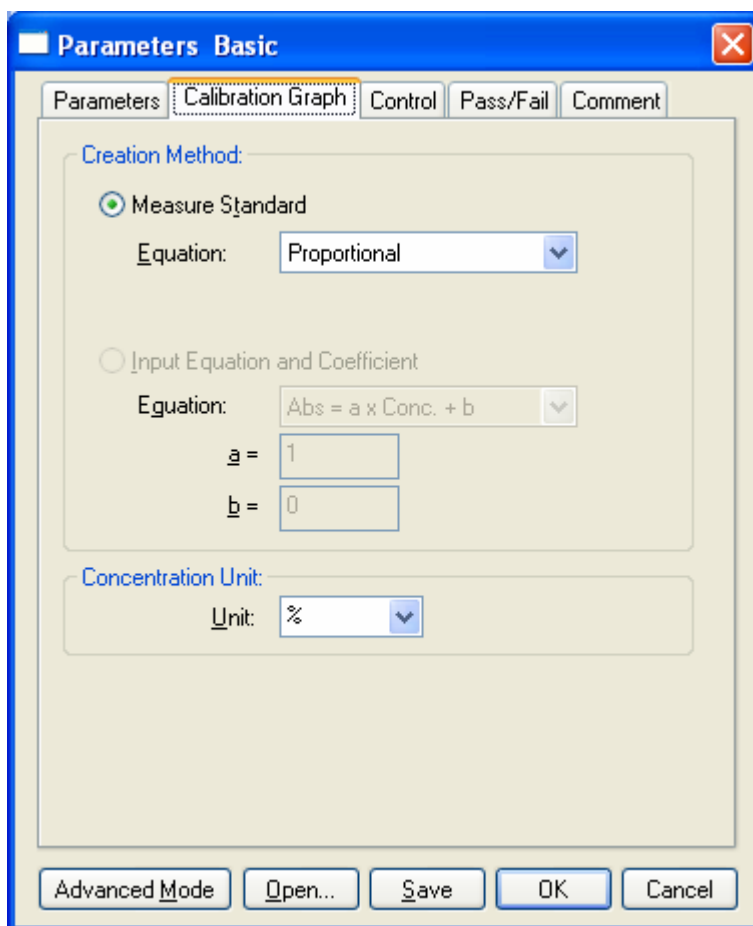

Figure 5.5 [Parameters Basic] Dialog, [Calibration Graph] tab
(2) Click on the [Calibration Graph] tab (see Fig. 5.5).